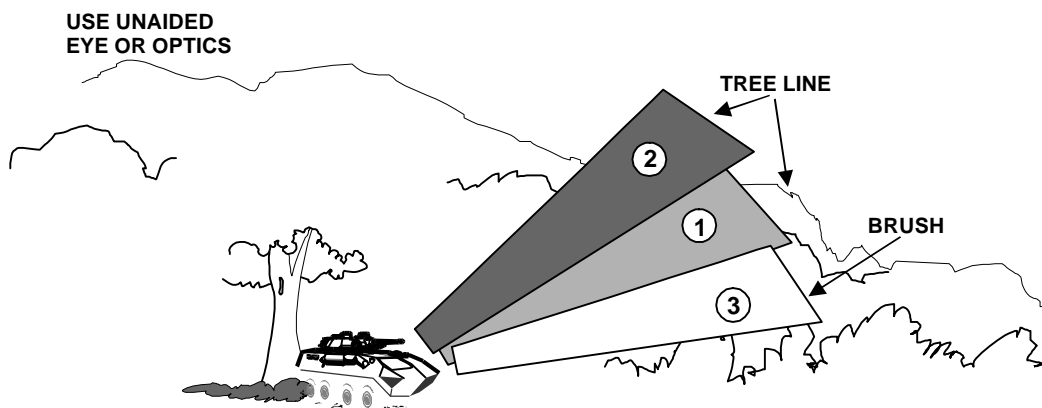

Figure 2-2. Rapid Scan Technique.
(1) Rapid Scan. The rapid scan method quickly detects obvious signs of enemy activity. (See fig. 2-2.) It is usually the first method used by the observer, whether the LAV-25 is stationary or moving. The vehicle commander may use binoculars, night vision devices, or the unaided eye; the gunner may use the M36 sight or the unity view window. The observer—